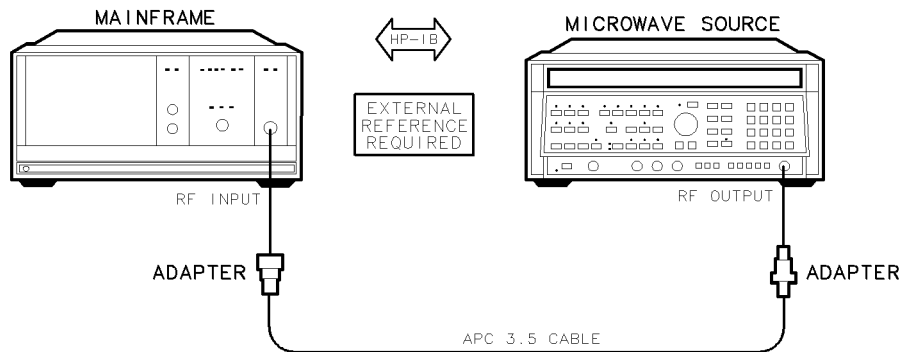

Figure 7-15. LO Span Accuracy (Phase-Locked Spans) Test Setup
1. Connect the HP 8340A/B synthesized sweeper RF OUTPUT to the DUT’s RF INPUT using the adapters as shown in Figure 7-15. Refer to Figure 7-1 for system rear panel connections.